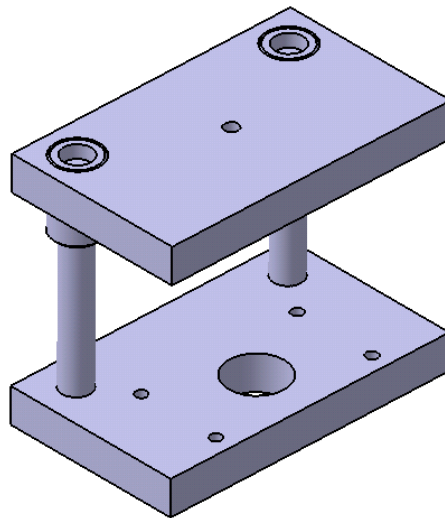
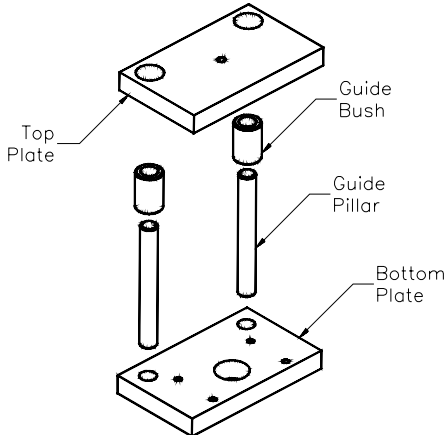
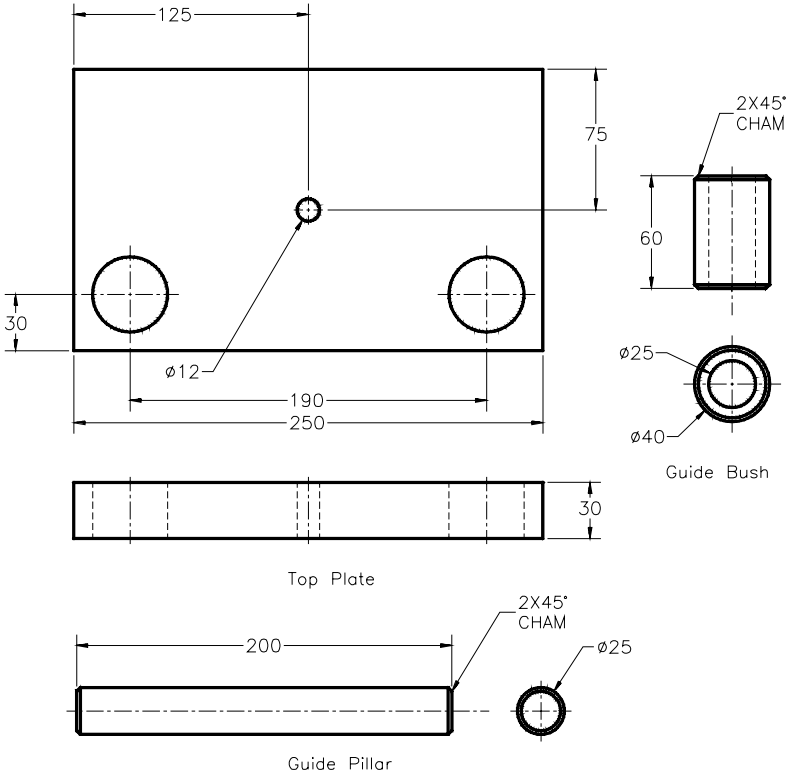

Figure 11-80 The Press Tool Base assembly
Figure 11-81 The exploded state of the Press Tool Base assembly
Figure 11-82 Views and dimensions of the Top Plate, Guide Pillar, and Guide Bush
In this tutorial, you will create some components of a Press Tool Base assembly using the top-down assembly approach. The Press Tool Base assembly is shown in Figure 11-80. The exploded state of this assembly is shown in the Figure 11-81. The dimensions of all components are shown in Figures 11-82 and 11-83. The drawing of the complete assembly is shown in Figure 11-80. **(Expected time: 45 min)**
6. Exit the **Sketcher** workbench and extrude the sketch, refer to Figure 11-82 for dimensions.
It is evident from Figure 11-80, that Guide Bush will be placed over the Guide Pillar. Therefore, the geometry of the Guide Pillar will be used to create the Guide Bush.